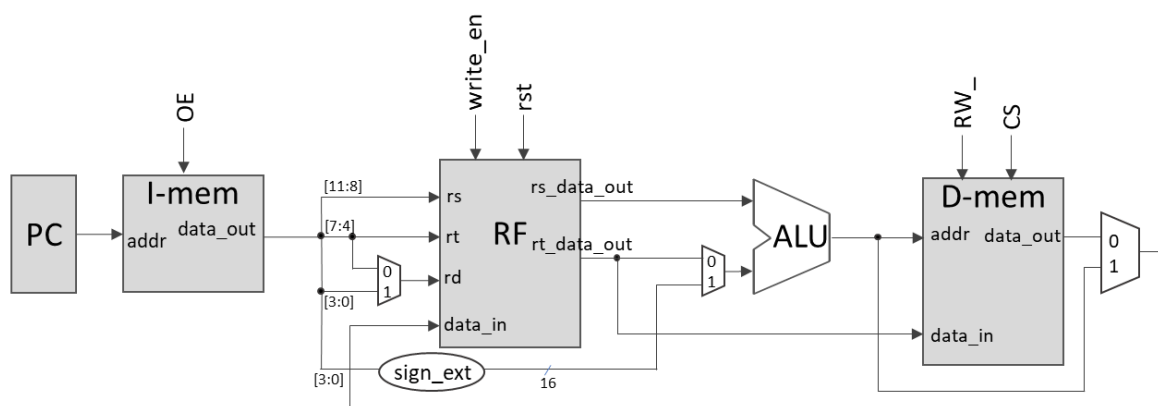

Figure 1.1 Simplified block diagram of the single cycle computer microarchitecture of ADSD-RISC
The CPU is split into a datapath and a controller. The overall datapath for the 16-bit ADSD-RISC is shown in Figure 1.1, consisting of several modules including a 16-bit ALU, byte-addressable instruction memory (IMEM), byte-addressable data memory (DMEM), 16-bit register file (RF), and other required components such as the program counter (PC), 16-bit sign_ext logic, and a few multiplexers. The control signals for the multiplexers (as well as PC and IR, if any) are not shown in the diagram. The CPU will execute each instruction in one cycle. No pipeline.
The IR register (not shown in Fig 1.1) does not have to be an actual register to store the instruction that comes out of the IMEM. For this implementation, the different bits of the “supposed” IR need to be connected to the different input ports of the RF module. Simple wires would suffice. The choice of bits depends on the instruction decoding requirements for the ISA (instruction set architecture). The IR is therefore not illustrated in Fig 1.1.